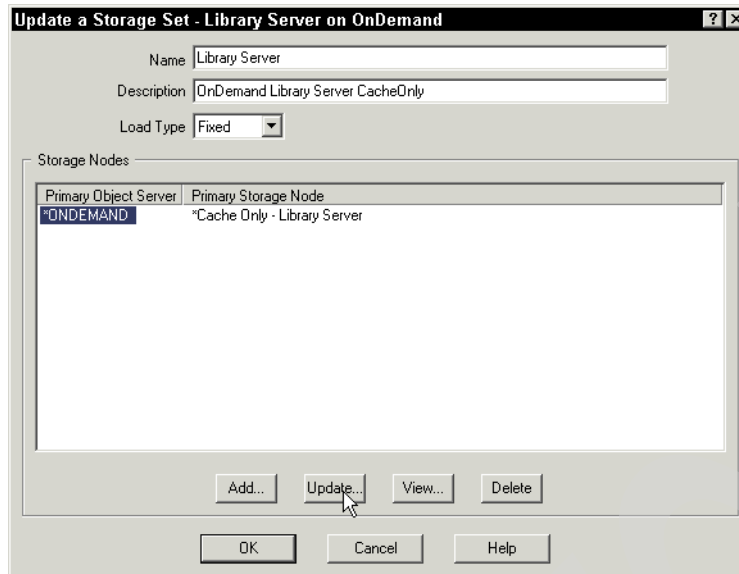

Figure 8-33 Update a Storage Set window
- d. On the next window, choose the primary object server **\*ONDEMAND**, and click **Update** to update the primary object server named Library Server, as shown in Figure 8-33 on page 335. This brings you to the Update a Primary Node window.
- vi. Now, you can update the description of the storage to reflect that this is no longer a cache-only storage set. Then, select **OK** in the Update a Storage Set window (see Figure 8-33).